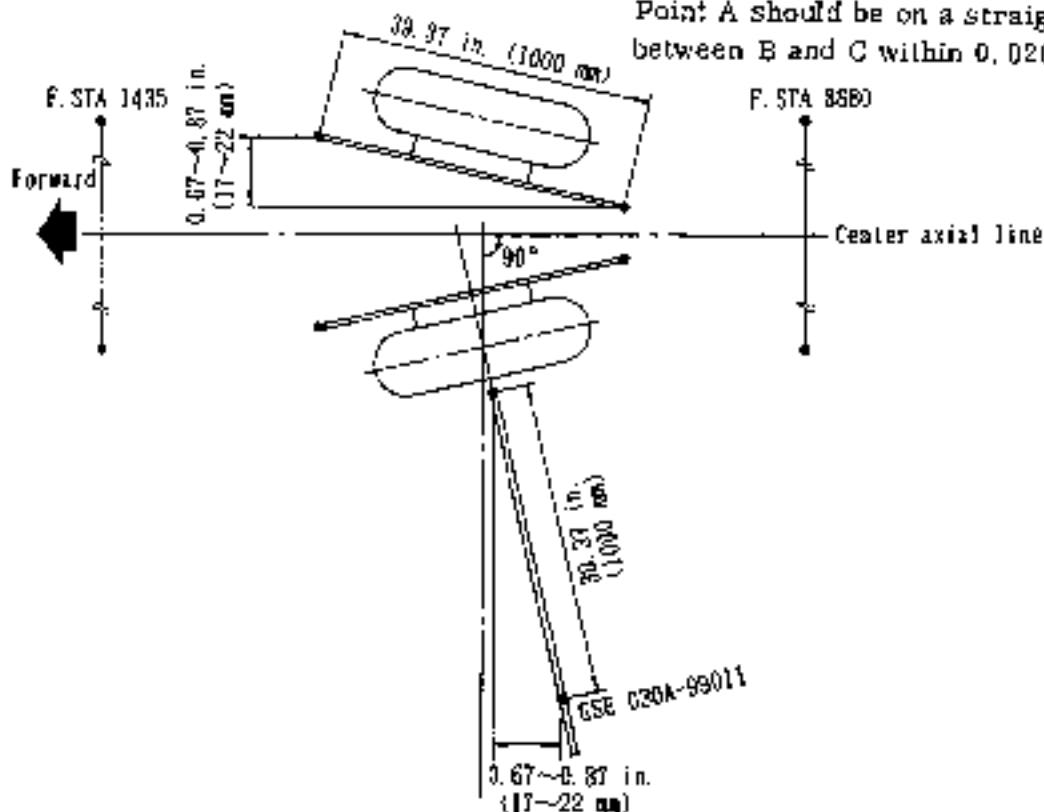

Fig. 4-24 Adjustment of position rod length
3.B INSTALLATION AND INSPECTION OF MAIN LANDING GEAR (See Fig. 4-24, 4-25)
- (d) Temporarily set the position rod length to the dimension shown in Fig.4-24
- (f) Position a one (1) meter ruler inside the wheel and suspend weights at both ends of the ruler(or set the GSE 030A-99011 to the wheel boss and suspend weights one (1) meter apart). Project a shadow of the weight on the ground and adjust the length of lower position rod as the slope of wheel is 0.67in.(17 mm) to 0.87 in.(22 mm) tow-out for 39.37 in.(1000 mm) length on judgement in the different distance between the shadow and the center line of aircraft axis.
- (g) Confirm that center line of lower position rod and leg center crank is within 0.02 in. (0.5 mm) as shown in Fig. 4-24. If it is more than 0.02 in. (0.5 mm), adjust the length of upper position rod and accomplish adjustment from step (f).
Lower rod length : dimension in Fig.4-24 ± 0.04 in. (± 1 mm)
Upper rod length : dimension in Fig.4-24 ± 0.12 in. (± 3 mm)